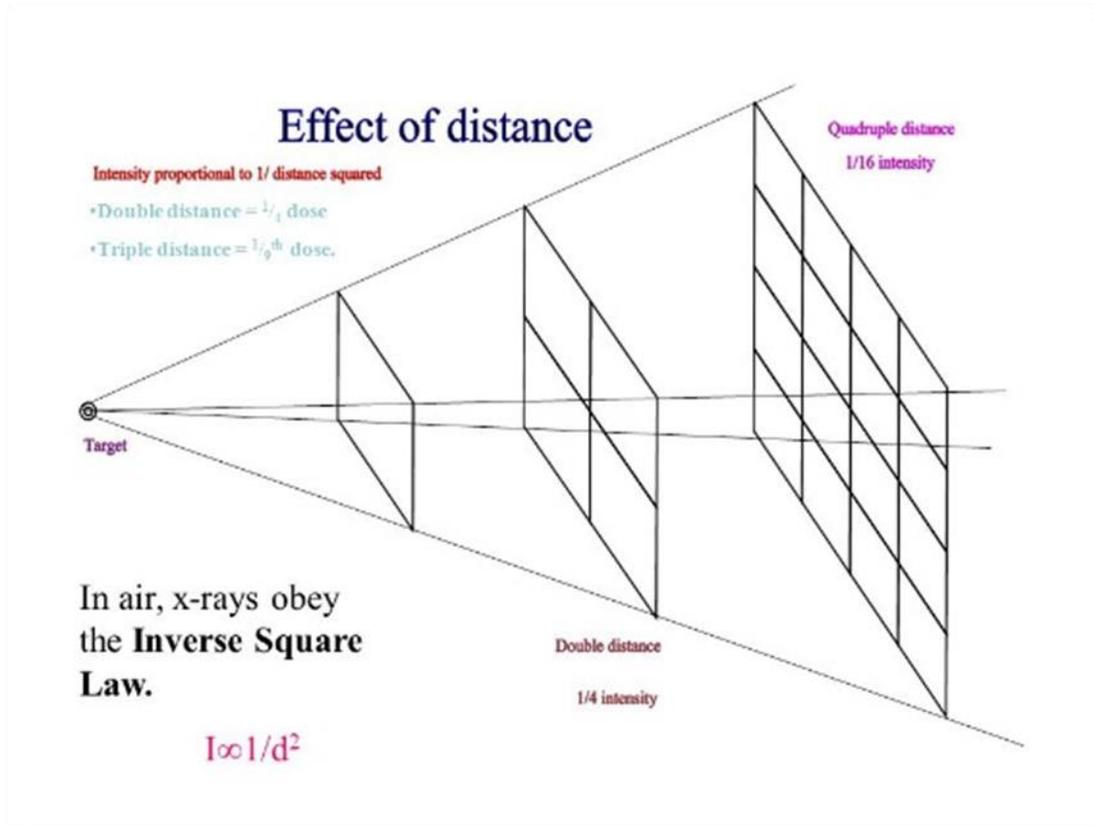

Figure 2: Illustration of how the intensity of radiation will vary with distance.
2. **Distance:** When a gamma ray or x-ray originate from a point source, their intensity is inversely proportional to the square of the distance (see Figure 2 below).
The mathematical relationship of Figure 2 is: